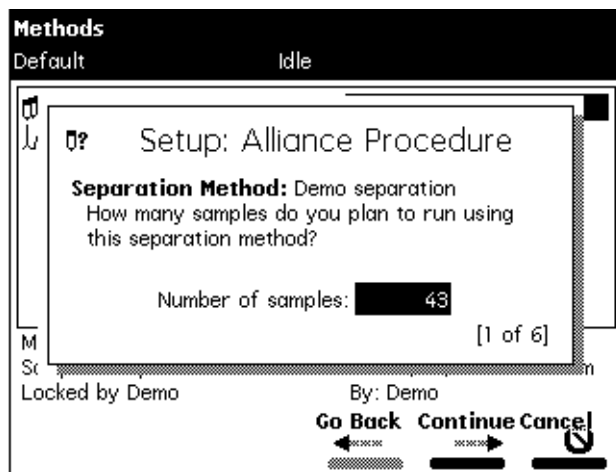

Figure 5-8 Setup Dialog Box
2. Select the sample template you want to run, then press **Enter**. The Setup dialog box appears (Figure 5-8).